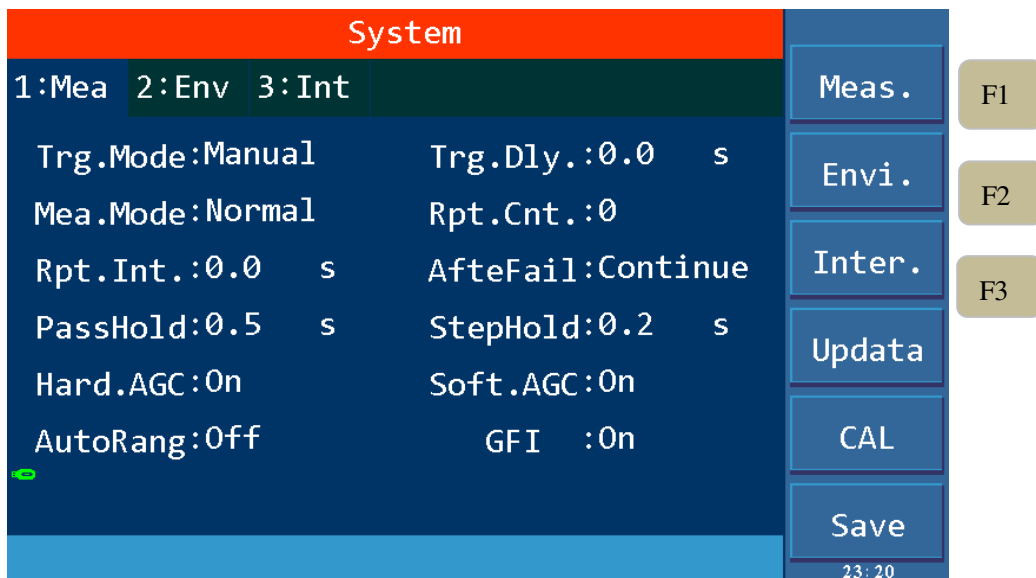

Figure 4-2 SYSTM Test Parameter Settings
1. Press `[[SYSTEM]]` key to enter the system setting interface shown in Figure 4-2.
Test related parameters setting in SYSTEM are shown in Figure 4-2:
1. Press `[[SYSTEM]]` to enter the system setting interface shown in Figure 4-2.